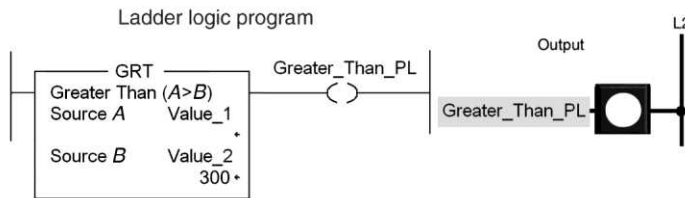

Figure 15-47 GRT instruction rung for question 8.
8. For the GRT instruction rung shown in Figure 15-47, what Value_1 8. _____ would make the instruction logically true?